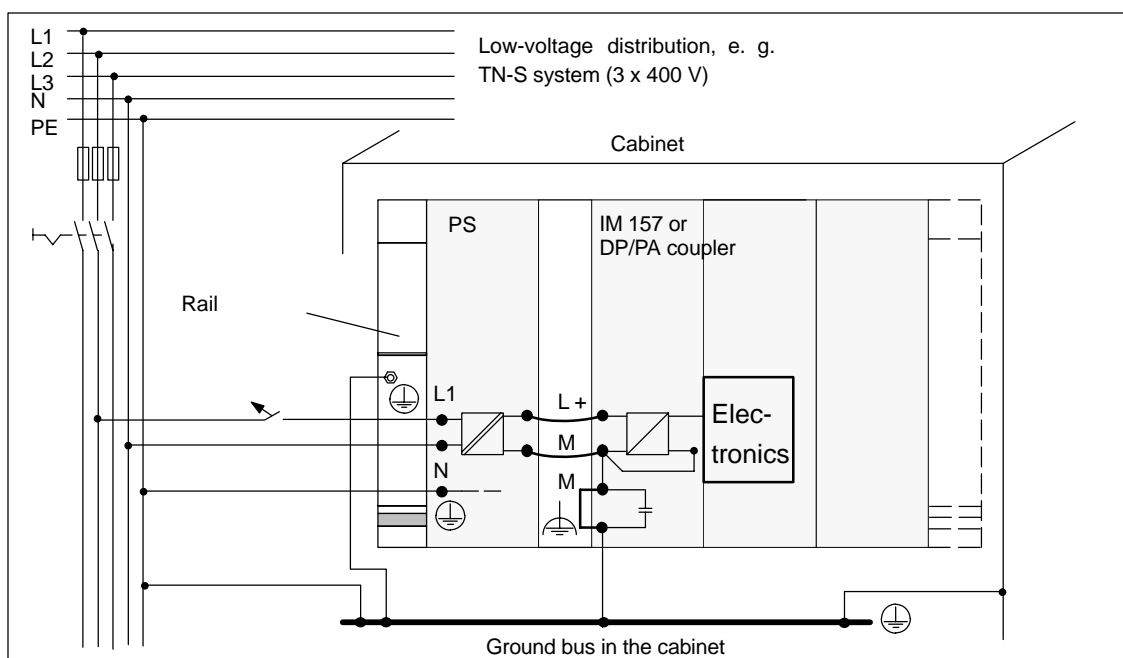

Figure 4-2 Configuration with a grounded supply
- Main switch (in Figure 4-2, ): DIN VDE 0100 Part 460
- Isolator (in Figure 4-2, ): DIN VDE 0113 Part 1
Figure 4-2 shows the position of the modules in the overall configuration when power is supplied from a TN-S network. When the DP/PA coupler is configured with a grounded reference potential, any interference current is discharged to the protective conductor.